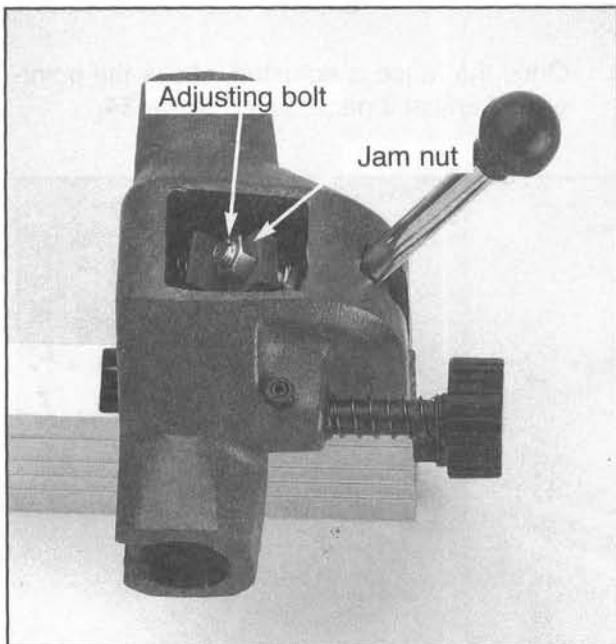

Figure 30. Adjustment points.
1. First, make sure the front clamp is engaging the front rail with the lock handle at one half its throw. If the front clamp requires adjustment, loosen the check nut. **Figure 30.** Turn the adjusting bolt in if the front clamp is too far from the rail, out if it is too close.